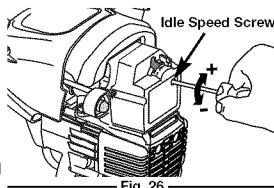

Fig. 26
The idle speed of the engine is adjustable through the air filter/muffler cover (Fig. 26).
2. Release the throttle trigger and let the engine idle. If the engine stops, insert a small phillips screwdriver into the hole in the air filter/muffler cover (Fig. 26). Turn the idle speed screw in, clockwise, 1/8 of a turn at a time (as needed) until the engine idles smoothly.